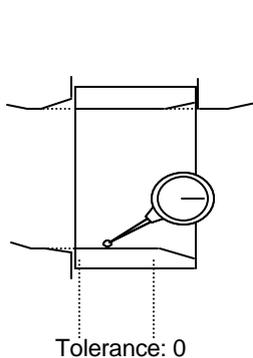

Figure 48
1. With the Placing and Pick-up valves OFF, move the opening where the shaft was removed to Station 9 and set the cam at 180 degrees. Check the flatness of the slider surface as indicated in Fig. 48. (the flatness should be zero) Follow the same procedure for Station 1. (Pick-up)